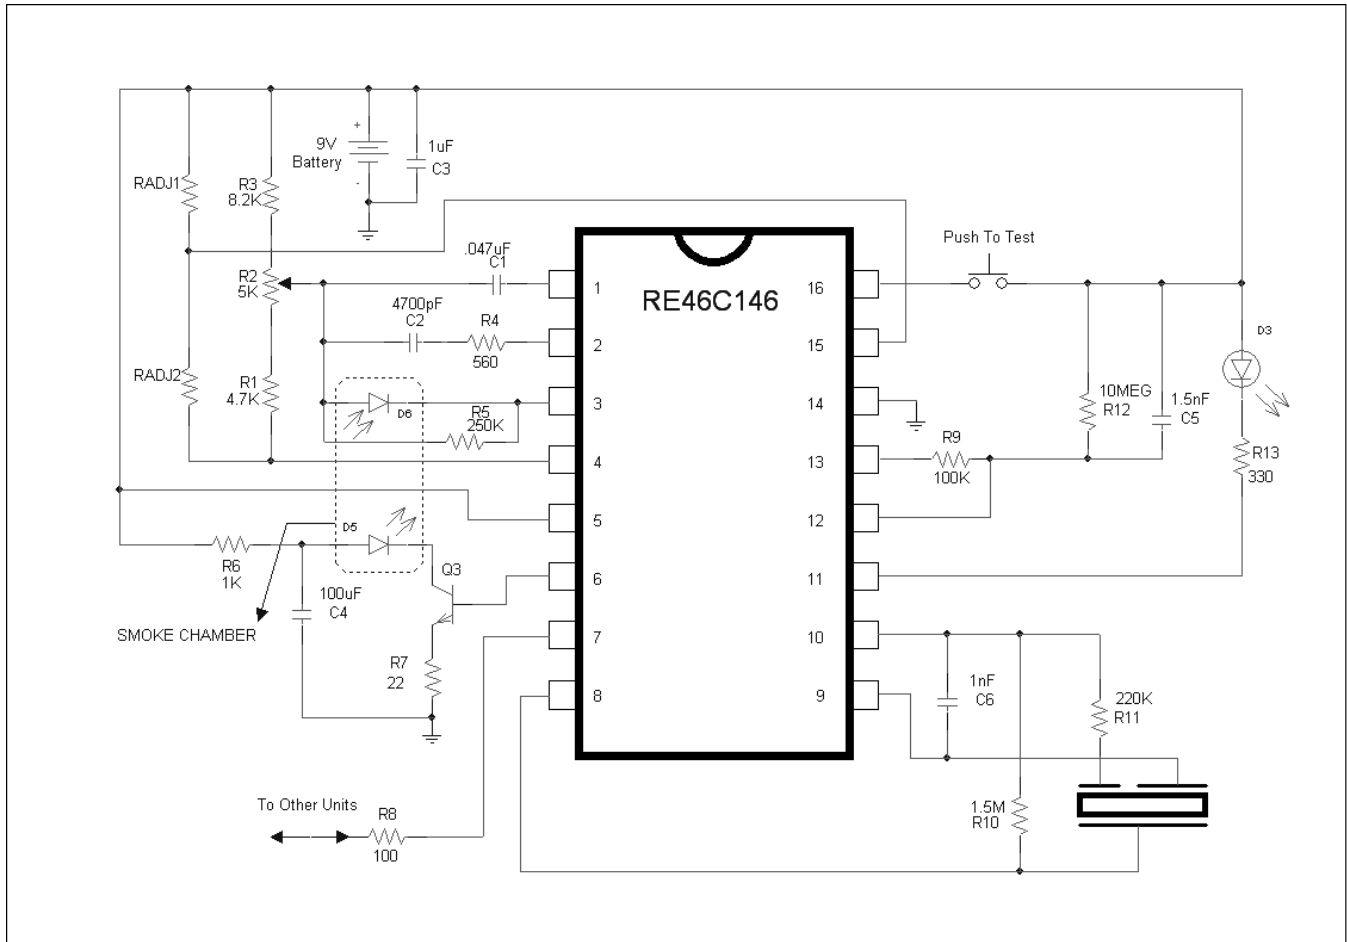

Figure 2
AC Electrical Characteristics at TA = -25° to 75°, VDD=9V, VSS=0V, Component Values from Figure 2 ;
- 1) The application of the internal 10 minute timer for reduced sensitivity as shown in Figure 2 may be covered by United States patent RE. 33920.
The oscillator period is determined by the values of R9, R12 and C5 (see typical application FIG 2). The oscillator period $T = T_R + T_F$ where $T_R = .6931 * R12 * C5$ and $T_F = .6931 * R9 * C5$